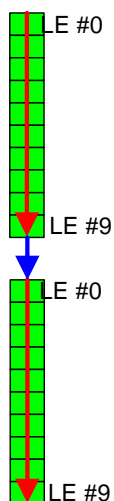

Figure 1: Carry chain connections.
1. All **.clk** and **.ena** signals on a logic cell are paired to form an LE clock (see Figure 1). In any LAB, there can be no more than 2 distinct LE clock pairs.